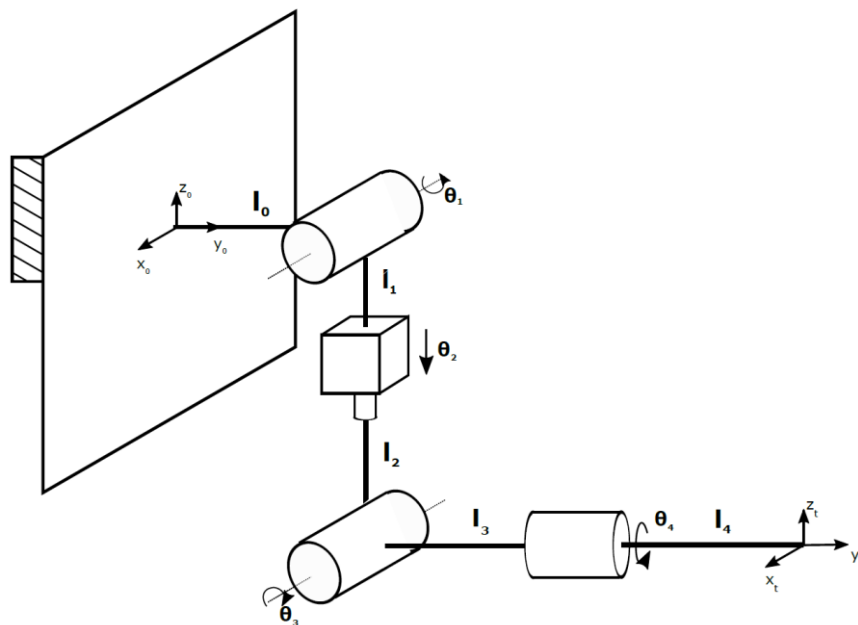

Figure 1: Robotic arm in its initial configuration.
- g) Consider the robotic arm in Figure 1. Determine the orientation of the end effector when you move joint 3 by $\theta_3 = 90^\circ$, joint 4 by $\theta_4 = 180^\circ$, and at last joint 1 by $\theta_1 = 90^\circ$. Express the rotation matrix in frame 0.